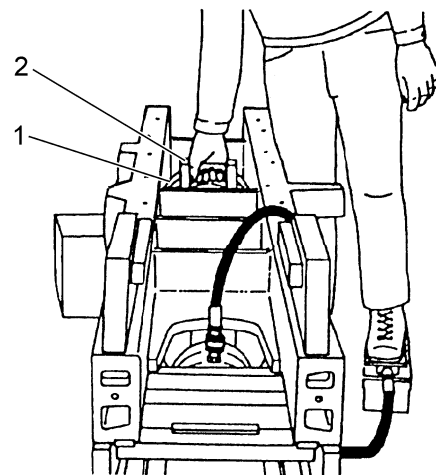

Fig. 14.58. Compression Tools Removing
9. Compress track spring (1, Fig. 14.58) and seat retainer bridge (2) squarely against spring retainer and frame support rib. Install locating bolt and nut. Back off ram and remove compression tools. Through access hole in frame, loosen spring bolt and remove.